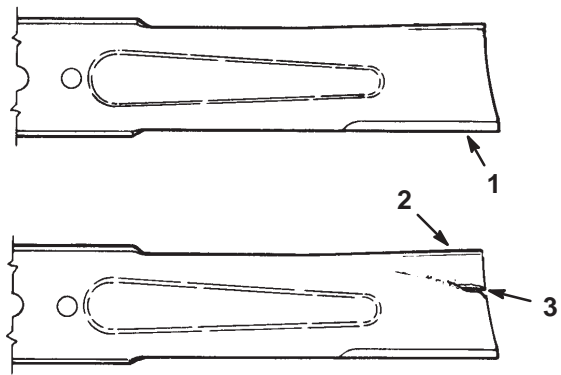

Figure 40
1. Inspect the cutting edges (Fig 40). If the edges are not sharp or have nicks, remove and sharpen the blades. Refer to Sharpening the Blades on page 33.
2. Inspect the blades, especially the curved area (Fig. 40). If you notice any damage, wear, or a slot forming in this area (item 3 in Fig. 40), immediately install a new blade.